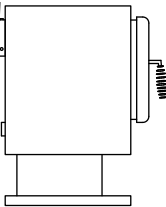

Figure 6
Step 3. Install CAS Connector Pipe. After the CAS Ceiling Support is installed and the stove is located, the CAS Connector Pipe can be installed. If the stove is a top-exit stove, then the female end (with pre-punched holes) of the CAS Adapter goes directly onto the stove's outlet collar, with the air intake branch of the Adapter facing to the back of the stove (**Fig 6**). Secure the female end of the Adapter to the stove's collar with (3) 1-1/4" screws provided. Pre-drill the stove's collar for the screws, as needed. The CAS Triple-Wall Stovepipe must have 6" clearance from walls and combustibles (running vertically) and 8" clearance from ceilings and combustibles (running horizontally).
If the stove has a rear outlet, a CAS Tee is required with the branch connecting directly to the stove's outlet. Secure the CAS Tee to the stove outlet with the (3) 1-1/4" screws provided. Pre-drill holes in the stove outlet, as needed. The CAS Adapter can be installed immediately above or below the CAS Tee (**Fig 6**) with screws provided. If installed below the Tee, remove the Tee Cap from the Tee and reattach the Tee Cap to the bottom